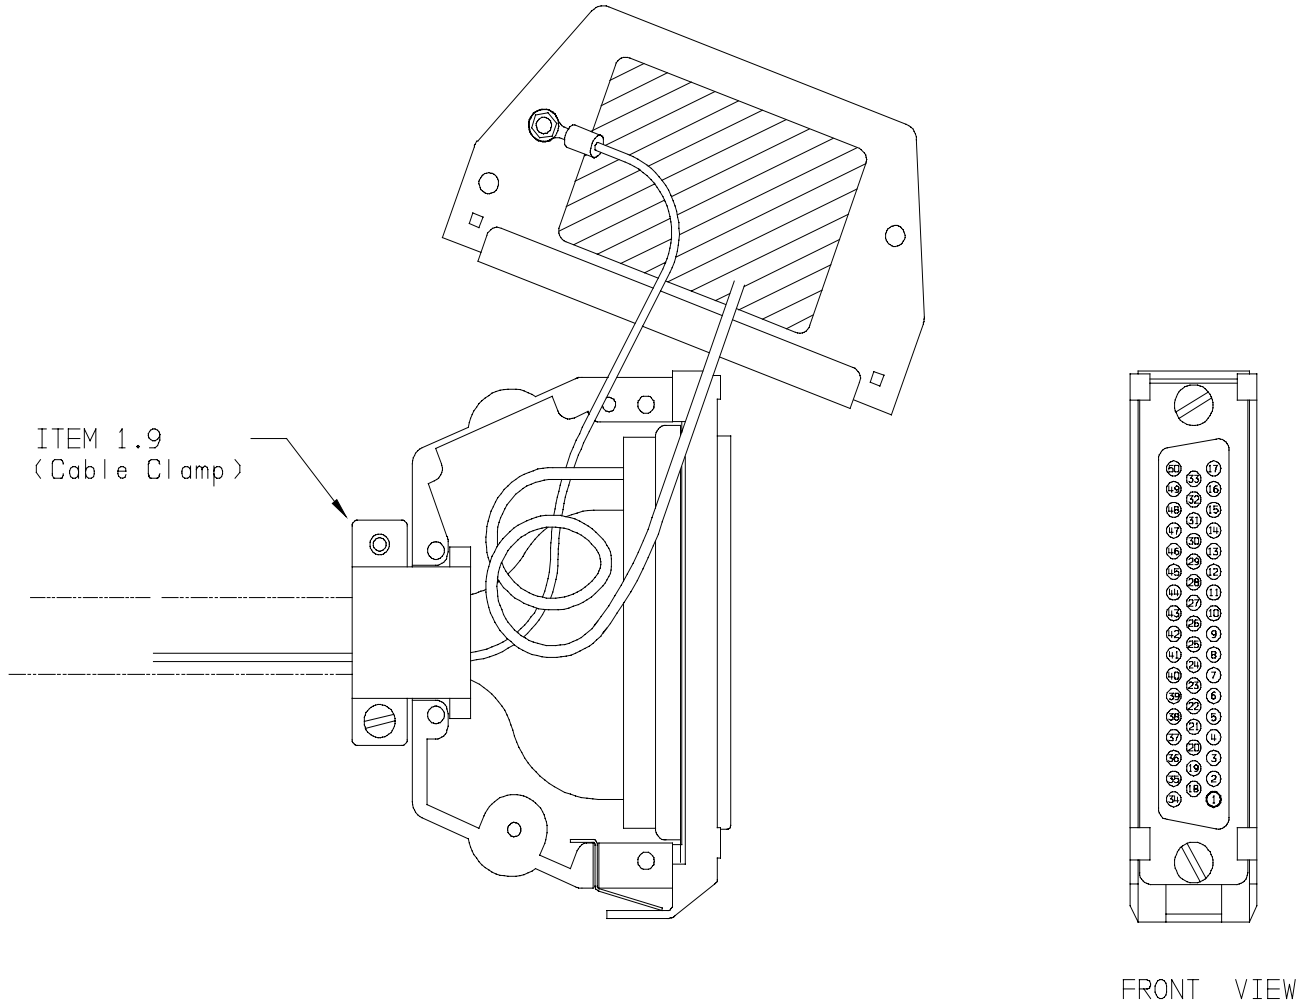

FIGURE 2-1.6 MK XXII EGPWS CONFIGURATION MODULE
STEP 6 Organize and dress wiring exiting from backshell. Route Configuration Module wires exiting from connector, then coil as shown in figure 2-1.6 below. Install item 1.9 (Cable Clamp) as shown. Do not tighten screws yet.